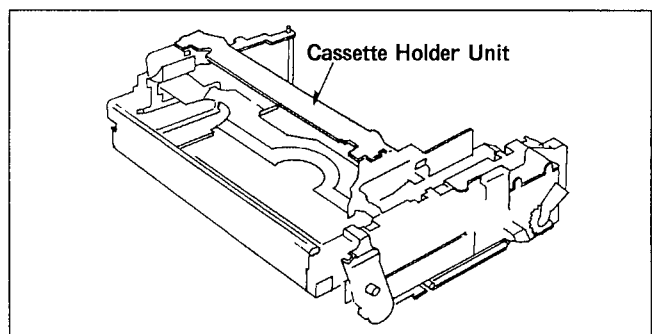

Figure D33
4. Remove a Cassette Holder Unit. (Figure D33)